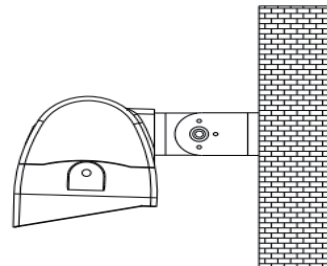

figure 2.2
Step 3 Loosen the screws. Adjust the fixture angle as per actual demands and tighten the screws when complete (figure 2.2).